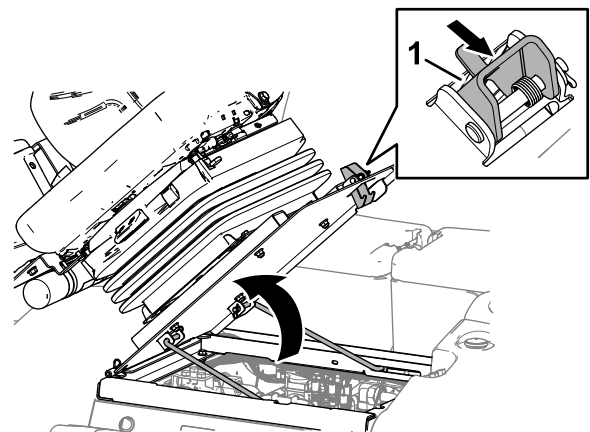

Figure 96
1. Move the seat latch outward (Figure 96).